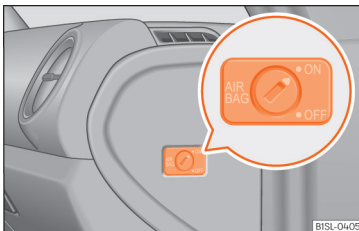

Fig. 21 On the passenger side: switch to activate and deactivate the front passenger airbag.
- Using the vehicle key, turn the key switch to **OFF** »» Fig. 21.